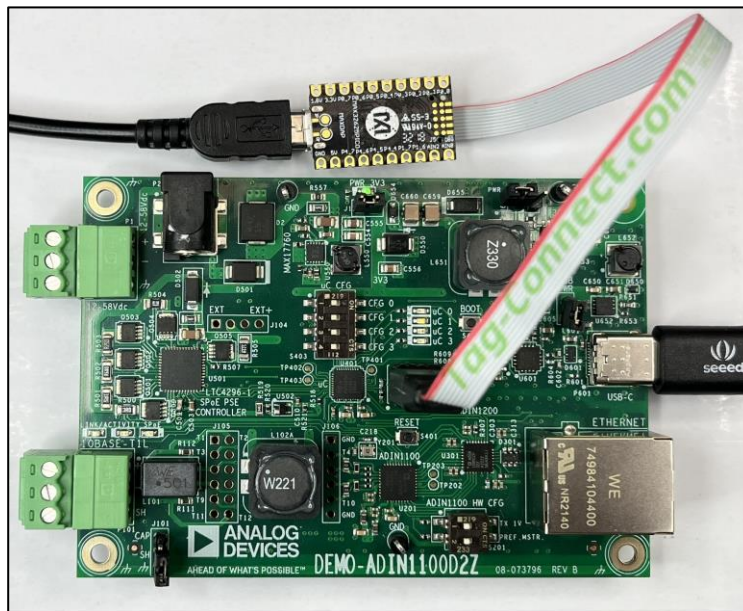

Figure 5: DEMO-ADIN1100D2Z Board with JTAG connected
1. Connect the JTAG to the DEMO-ADIN1100D2Z board. To power up, connect the USB TYPE-C cable to the board on one side and to the host PC on the other side, shown in Figure 5.